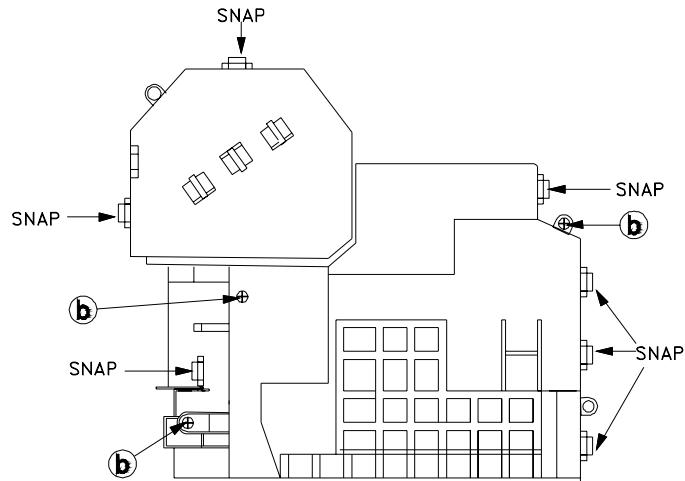

Figure 2: Duct Assembly (Top View)
- 3) Remove 3 screws (**b**) from the top of the upper duct and release the 7 snaps shown in *Figure 2*.